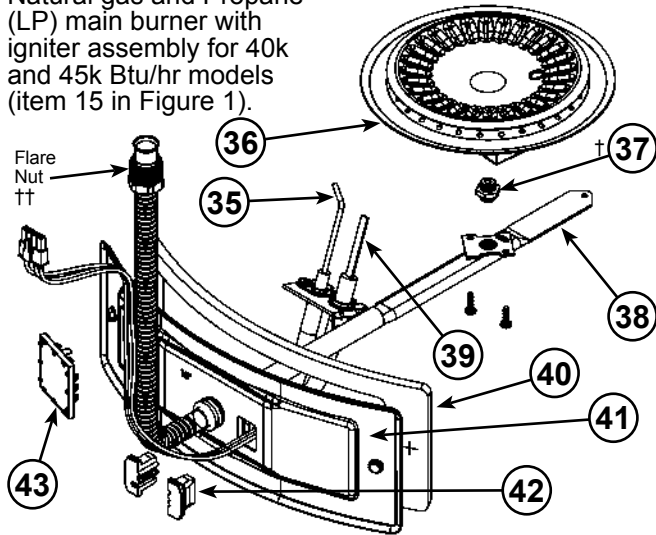
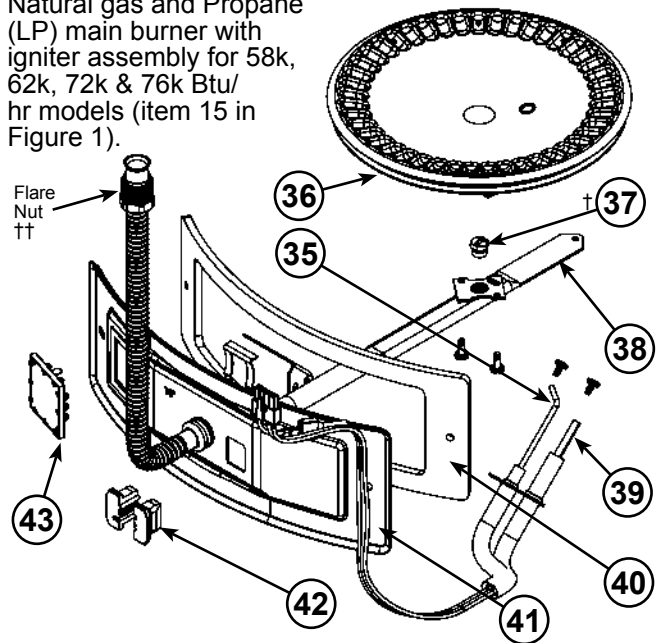

Figure 54.
Figure 55.
- 15 Manifold Door Assembly (behind outer door) (see Figure 3 & Figure 4) (see also **Figure 54 & Figure 55**)
- 35 Flame Sensor Rod (see Figure 3 & Figure 4) (see also **Figure 54 & Figure 55**)
- 36 Sheet Metal Burner (see Figure 3 & Figure 4) (see also **Figure 54 & Figure 55**)
- 37 Gas Orifice (see Figure 3 & Figure 4) (see also **Figure 54 & Figure 55**)
- 38 Gas Manifold (see Figure 3 & Figure 4) (see also **Figure 54 & Figure 55**)
- 39 Hot-Surface Igniter (see Figure 3 & Figure 4) (see also **Figure 54 & Figure 55**)
- 40 Manifold Door Gasket (see Figure 3 & Figure 4) (see also **Figure 54 & Figure 55**)
- 41 Manifold Door (see Figure 3 & Figure 4) (see also **Figure 54 & Figure 55**)
- 42 Two Piece Grommet With Clip (see Figure 3 & Figure 4) (see also **Figure 54 & Figure 55**)
- 43 Viewport (see Figure 3 & Figure 4) (see also **Figure 54 & Figure 55**)